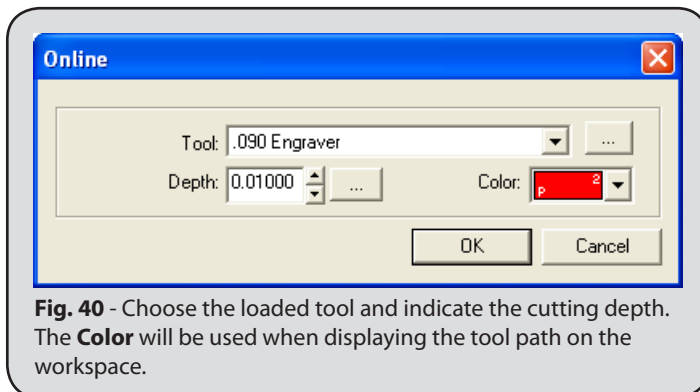

Fig. 40 - Choose the loaded tool and indicate the cutting depth. The **Color** will be used when displaying the tool path on the workspace.
4. The **Online** dialog will open. For this example, a 0.005 ¼” Engraver was used, and the **Depth** was set to 0.01” (Fig. 40).